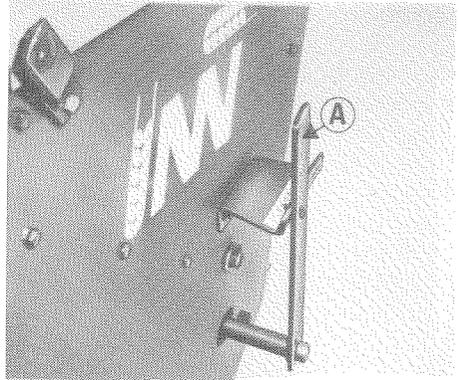

Fig. 16
- Adjust the bottom flaps by means of the handle A (Fig. 16). Bottom flap positions for certain common seeds are indicated on the sowing table, but the rule is that the bottom flaps should be adjusted to a position as close as possible to the sowing wheel without damaging or squeezing the seed.